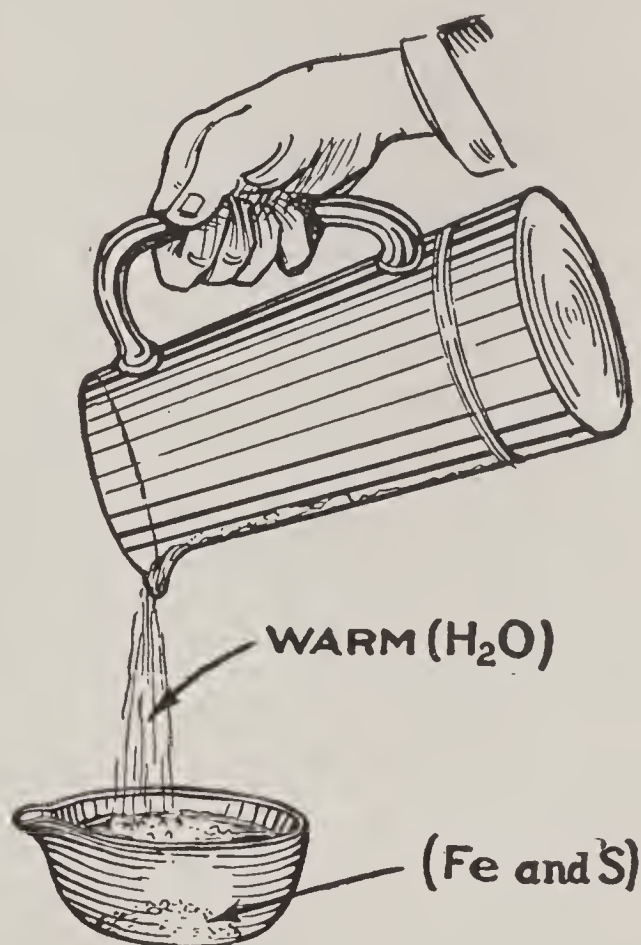

FIG. 36.—Making a Chemical Compound.
filings and the powdered sulphur (S) in an earthenware dish and then pour a little warm water (H_2O) over them, as shown in Fig. 36. In a short time you will see that a change is taking place in the mass, that it gets very hot, swells up, and takes on a black metallic-looking color. The resultant mass has none of the characteristics of iron (Fe) or of sulphur (S), but is a different substance entirely from either one of them, for they have combined chemically and now form ferrous¹ sulphide (FeS).